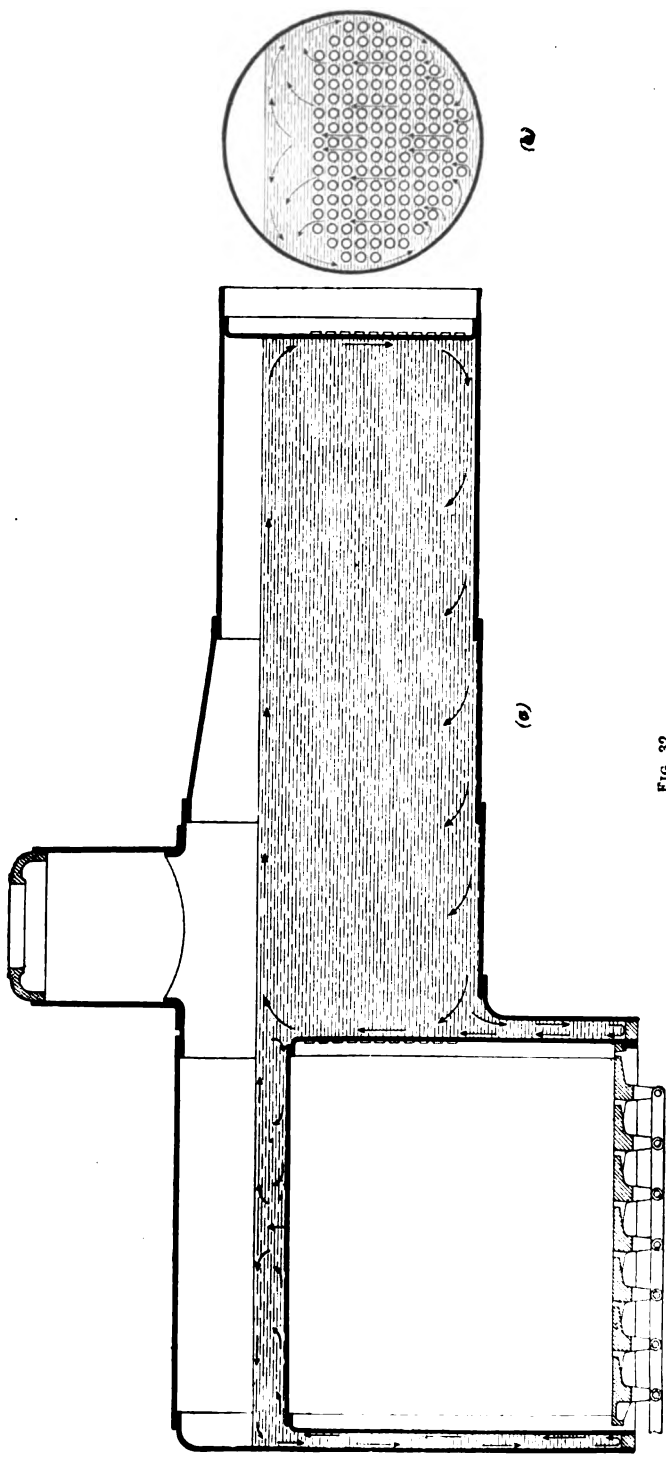

FIG. 32.
**77. Circulation in Boiler.**—Proper circulation of the water is essential to the efficient operation of a boiler, as it tends to keep all parts at a uniform temperature, and therefore is a safeguard against overheating. Besides this, when the circulation is good, it prevents to some extent the deposit of lime that accumulates from the feedwater. The circulation of water in a boiler is illustrated in Fig. 32, where (a) is a longitudinal section and (b) is a cross-section. The motion of the currents is shown by the arrows. The heated currents rise and carry the bubbles of steam to the surface, the cooler water rushing in to take their places over the heating surface, and thus the circulation is maintained. View (a) shows the hot water rising up and flowing towards the front end, while the cooler water sinks and flows towards the rear end. In view (b) the warm water is seen flowing up between the flues, and the cold water flowing down in the space between the flues and the shell of the boiler. Since the cooler water flows towards the rear end, the circulation is aided by introducing the feedwater as far ahead as possible. This, however, is not the chief reason why the boiler checks are placed so far ahead in locomotive boilers; when the water is introduced near the front end, it is heated considerably before it comes in contact with the hot firebox sheets, which, therefore, are not subjected to such sudden contraction as would otherwise be the case, and hence are less liable to leak or crack. Also, the coolest water circulates around the front end of the tubes in which the gases are about to pass out into the smoke arch, and thus the greatest amount of heat is absorbed from the gases by the water.